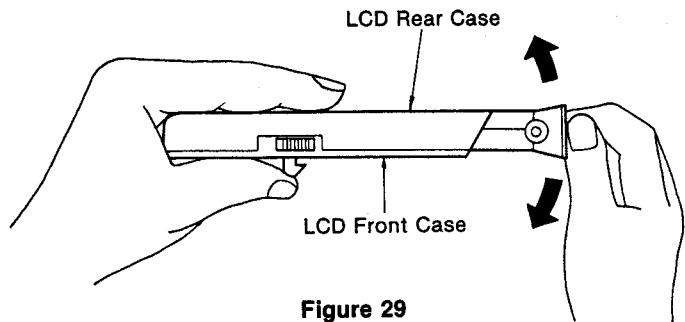

Figure 29
- (6) Gradually open the LCD rear case from the LCD front case as shown in Figure 29.